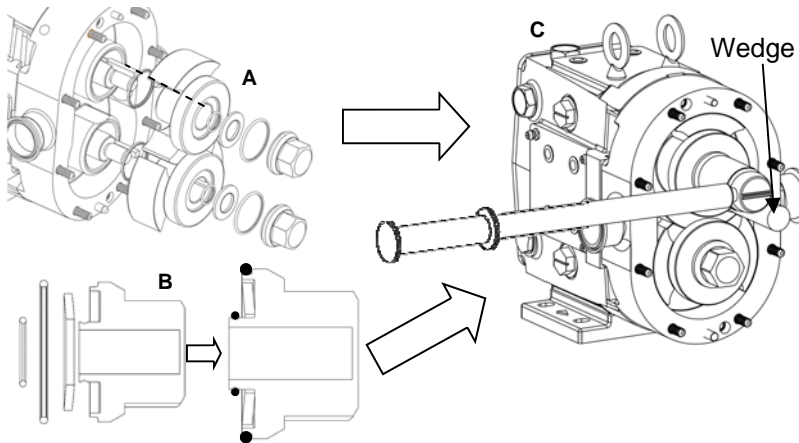

Figure 52: Installing and Securing the Rotor
2) Insert rotor key in the keyway on the shaft. Install a new rotor hub o-ring on the rotor hub and align the rotor keyway to the key in the shaft (Figure 52, A). Slide the rotor on until it seats against the shaft. Install the Bellville washer in the rotor nut and hold it in place using the small retaining o-ring (Figure 52, B). Place one nut on at a time, tightening them down using the appropriate wrench and a non-metallic wedge to hold the rotor in place (Figure 52, C). See Table 7 for required torque values. Repeat with the second rotor.